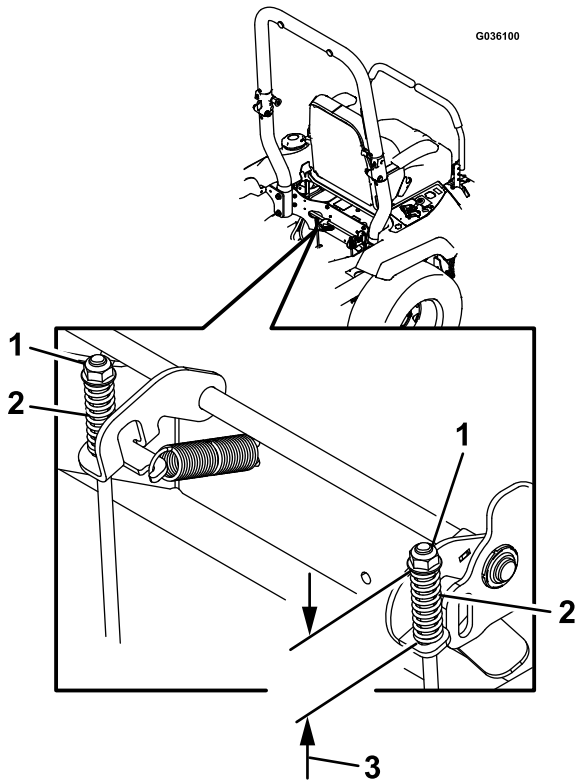

**Figure 72**
6. If an adjustment is necessary, disengage the parking brake. Remove the cotter pin from the brake linkage shaft (Figure 72).